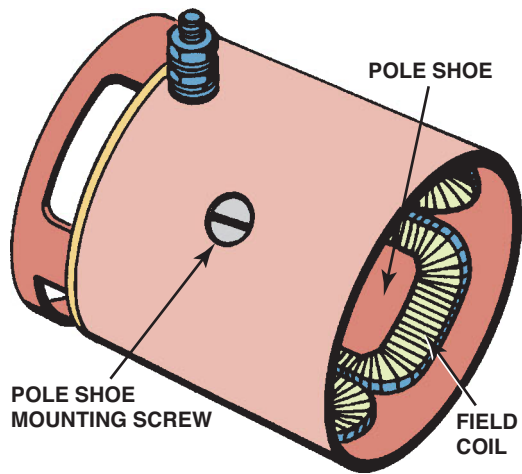

FIGURE 52-15 Pole shoes and field windings installed in the housing.
- **Field coils.** The steel housing of the starter motor contains permanent magnets or four electromagnets that are connected directly to the positive post of the battery to provide a strong magnetic field inside the starter. The four electromagnets use heavy copper or aluminum wire wrapped around a soft-iron core, which is contoured to fit against the rounded internal surface of the starter frame. The soft-iron cores are called **pole shoes**. Two of the four pole shoes are wrapped with copper wire in one direction to create a north pole magnet, and the other two pole shoes are wrapped in the opposite direction to create a south pole magnet. These magnets, when energized, create strong magnetic fields inside the starter housing and, therefore, are called **field coils**. The soft-iron cores (pole shoes) are often called **field poles**. ● SEE FIGURE 52-15.